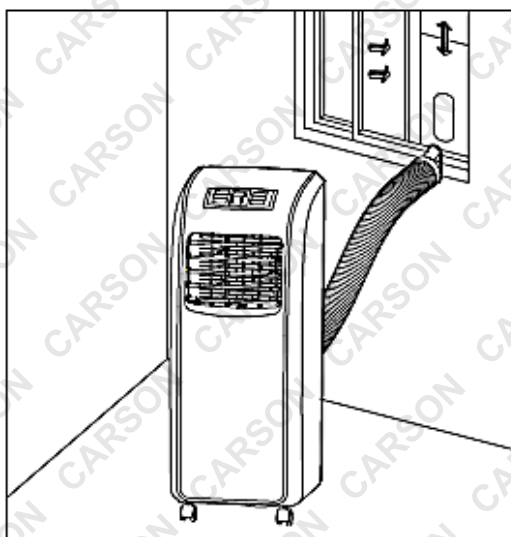

Figure 10
2. Snap the flat end of the heat exhaust hose short connector into the elliptical hole of the window sealing board assembly (as shown in Figure 10 and 11).